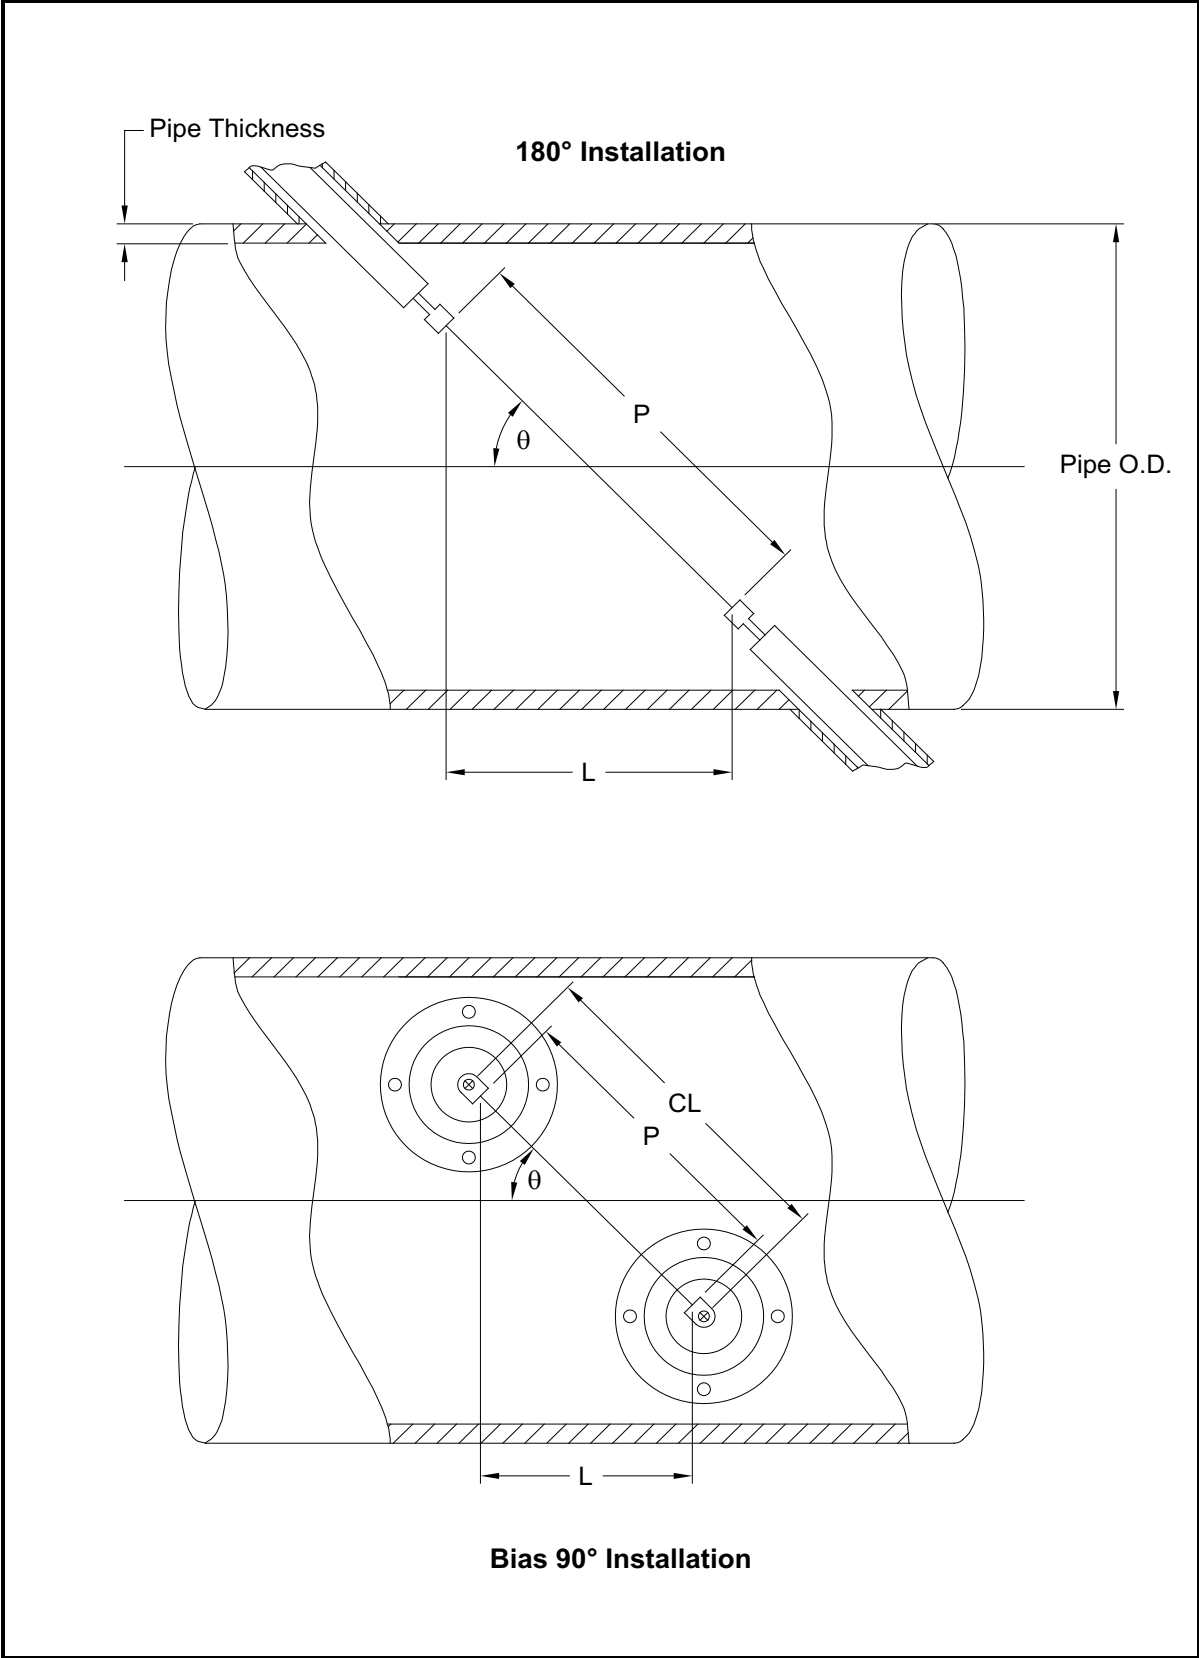

Figure 17: Top View of Transducer Installations
The accuracy of the programmed P and L values is critical to precise flow rate measurements. If Panametrics supplies the flowcell for the system, the correct values will be included in the documentation supplied with the unit. For transducers installed on an existing pipe (see Figure 17 on page 58), P and L must be measured at the site. This appendix provides instructions for properly determining these dimensions.
Whenever possible, physically measure the face-to-face distance (P) and the axial distance (L) between the centers of the flat faces of the transducers. Refer to Figure 17 on page 58 for an illustration of the proper distances to measure in a typical installation.
With a Bias 90° transducer installation, it sometimes happens that the only known parameters are the transducer angle ( $\theta$ ) and the centerline distance between the transducer bodies (CL). In these cases, it is still possible to calculate both P and L by combining the first equation above with the second equation below (see Figure 17 on page 58):